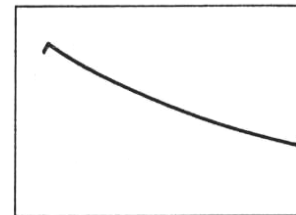

Fig. 20
5. Set the output voltage to 100V with the SURGE ADJ knob ⑤, press the MANUAL trigger switch ⑦ and check the waveform displayed on the oscilloscope screen. The waveform is seen as shown in Fig. 20. (Polarity: +)